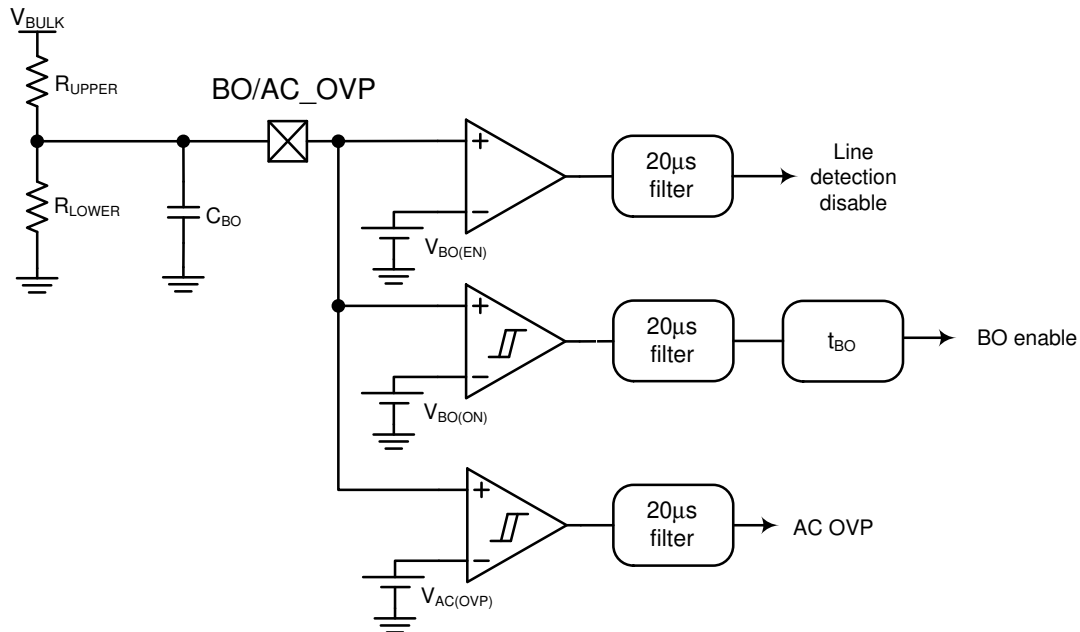

Figure 40. The Internal Brown-out Configuration
The Brown-out circuitry offers a way to protect the application from operation under too low an input voltage. Below a given level, the controller blocks the output pulses, above it, it authorizes them. The internal circuitry, depicted by Figure 40, offers a way to observe the high-voltage (HV) rail.